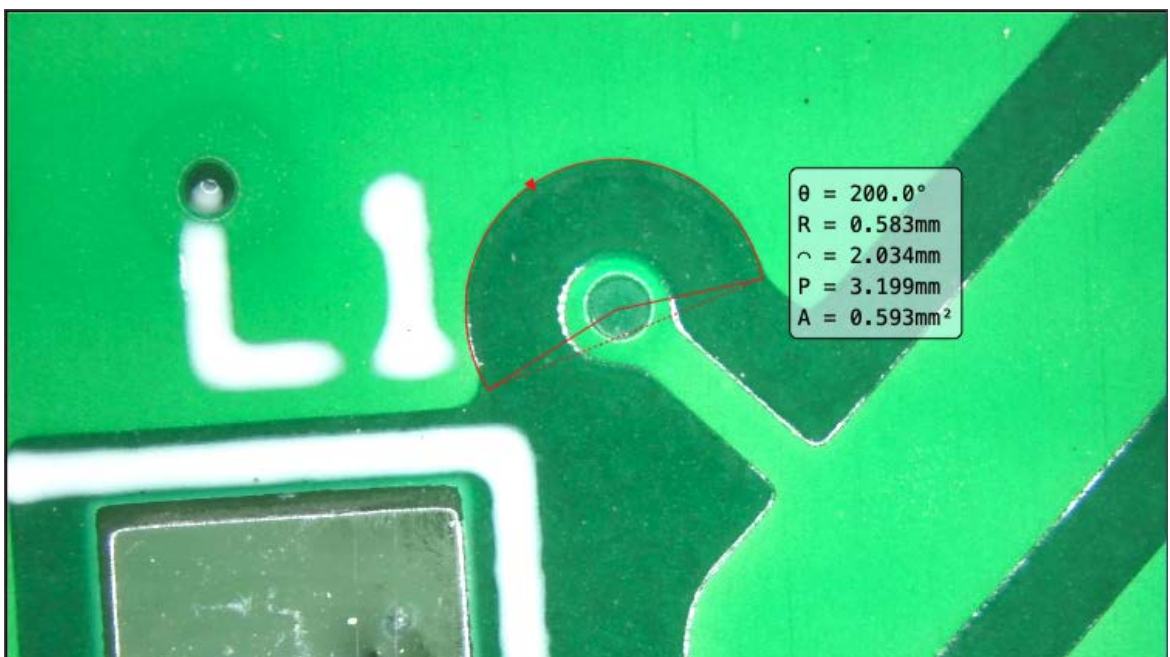

Figure 5-6 Arc measurement example
(4) Arc: When you want to measure the arc, you can use the tool . Drag three points in sequence along the edge of the graphic to complete the arc measurement. From Figure 5-6, you can see the relevant measurement information of the arc. The measured angle is  $200^\circ$ , the radius is  $0.583\text{mm}$ , and the bow length is  $2.034$ , perimeter is  $3.199\text{mm}$ , area is  $0.593\text{mm}^2$ .